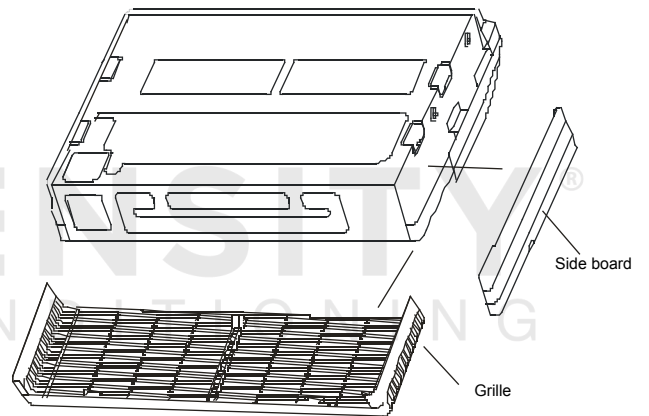

Fig. 4-10
- Remove the side board and the grille. (Refer to Fig. 4-10) (For models 48 and 60, do not remove the grille.)